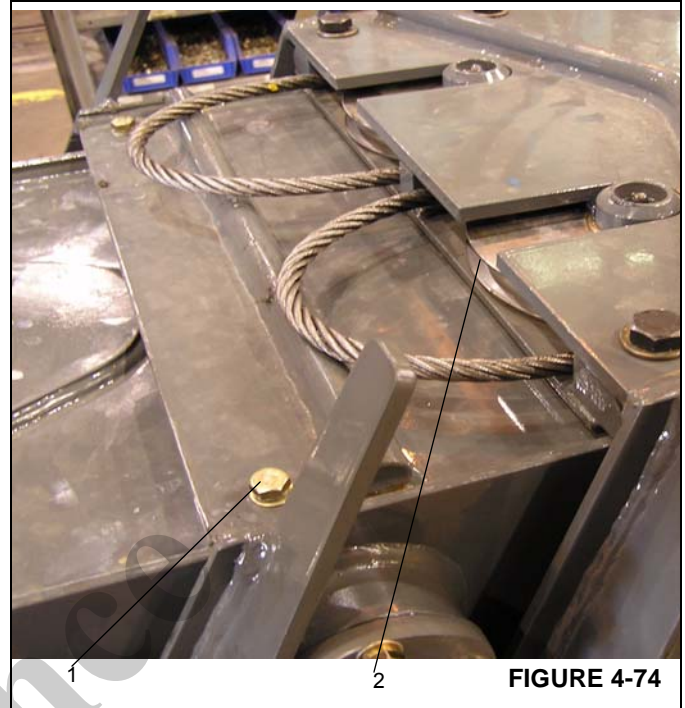

FIGURE 4-74
23. Install kickback plate on inside top Inner Mid section (Figure 4-74, 1).
24. Install the mid syncro cable sheave assembly (Figure 4-74, 2) to top inside of Inner Mid section.